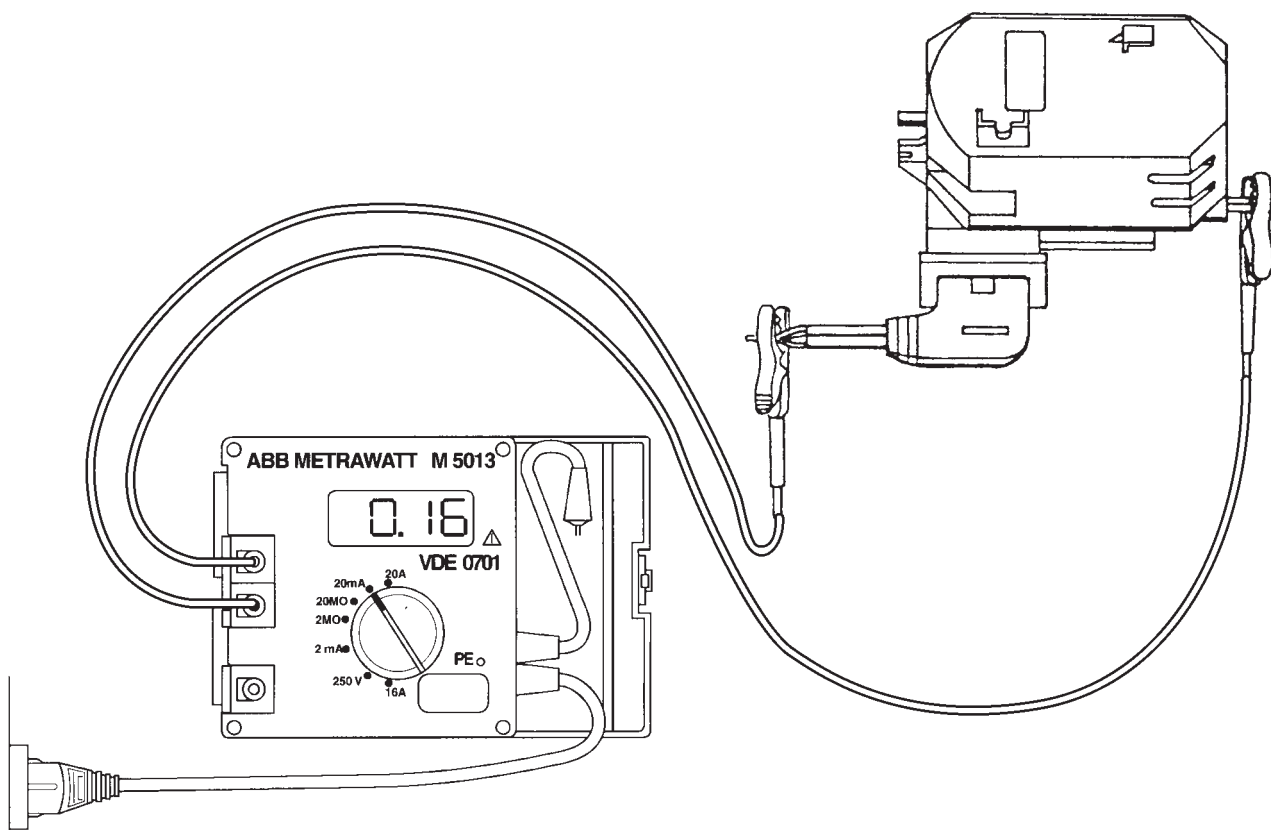

Fig. 125
- Set testing range switch at "20 mA" (fig. 125).
- Connect the two test leads as in fig. 125.